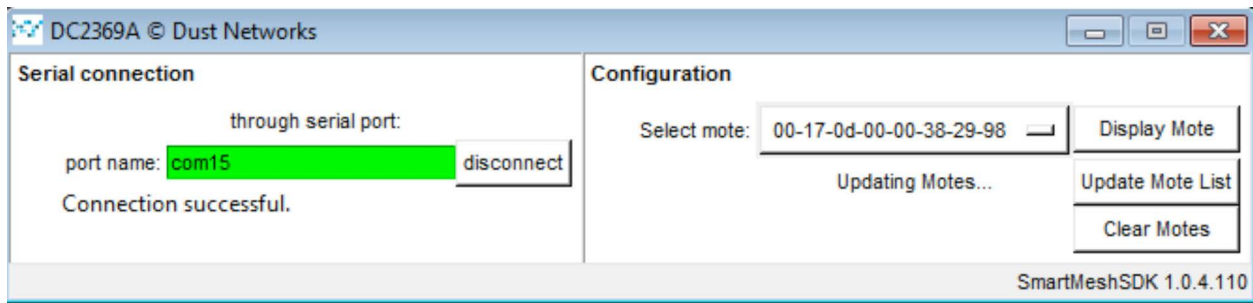

Figure 4. DC2369A GUI Successful Connection
6. In the port name field, enter the COM port that corresponds to the Manager API. This is typically the last of the four COM ports added. Then click the connect button. The GUI window will change as shown in Figure 4 if connection is successful.